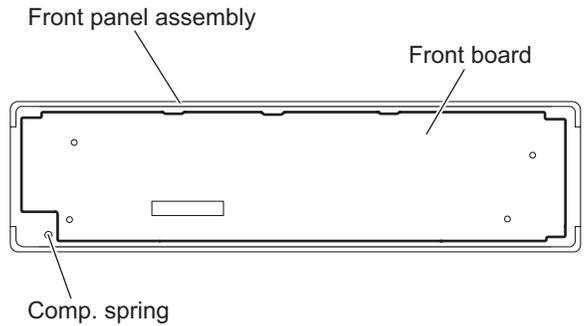

Fig.17
- (3) Take out the front board from the front panel assembly. (See Fig.17.)
When removing the rear cover assembly and front board, be careful not to lose the comp. spring. (See Fig.17.)